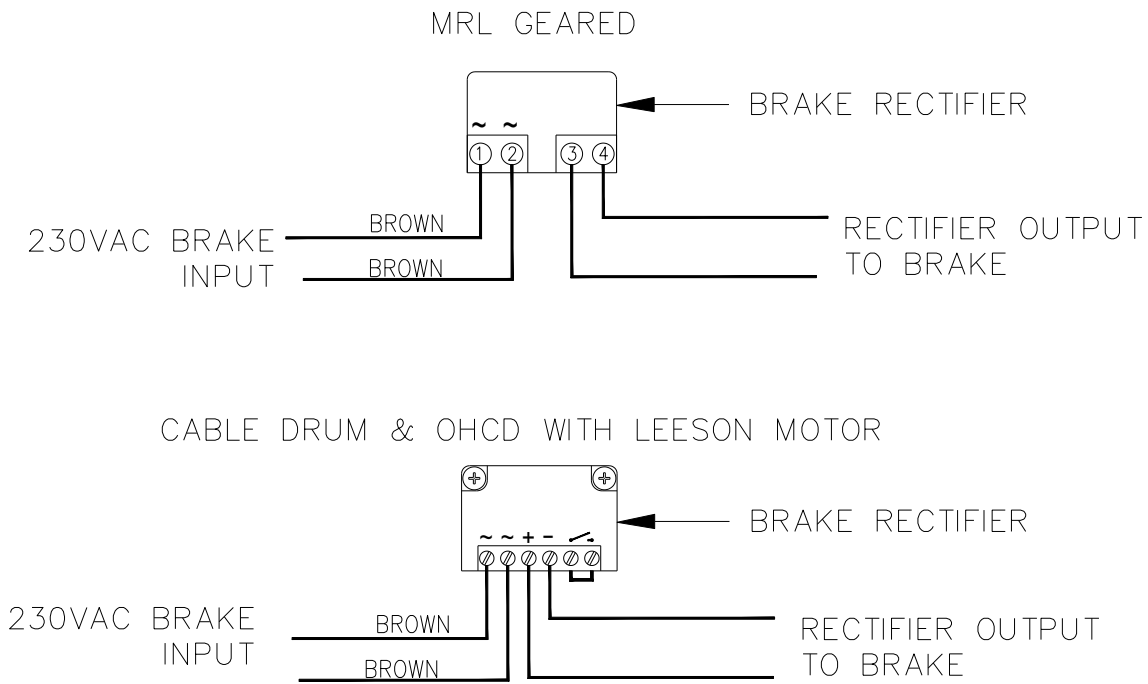

Figure 24 - Standard Brake Wiring
4. *MRL Overhead Cable Drum elevators using Lesson motors* have only 3 motor wires. Connect the three (3) black wires in the motor power cable to the 3 motor wires inside the electrical junction box.
5. Brake wiring for Standard Cable Drum elevators, MRL Geared elevators, and *MRL Overhead Cable Drum elevators using Lesson motors* is shown in figure 23. Connect the two (2) brown brake wires from the controller to the rectifier in the electrical junction box as shown in Figure 24.